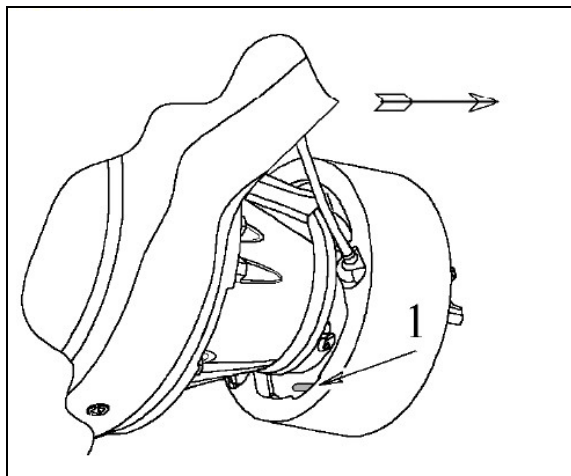

Figure 3- Adjusting slot
6.2) Locate the adjusting slot underneath the park brake drum, locate the adjusting screw star wheel inside the slot – Figure 3